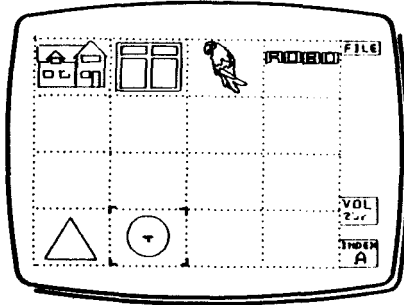

Fig 1
- 3 Press and release **T** to file your circle in an empty library box (Fig 1).